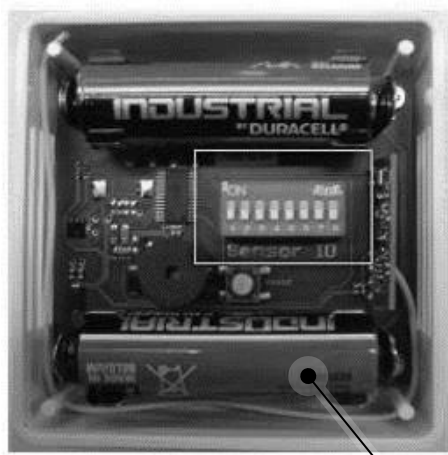

Fig. 8: Inserting the batteries
2. Insert the supplied 1.5 V AA batteries as shown (Fig. 8/1). The plus and minus poles are marked both on the circuit board and on the battery. The batteries are inserted correctly if these markings match.